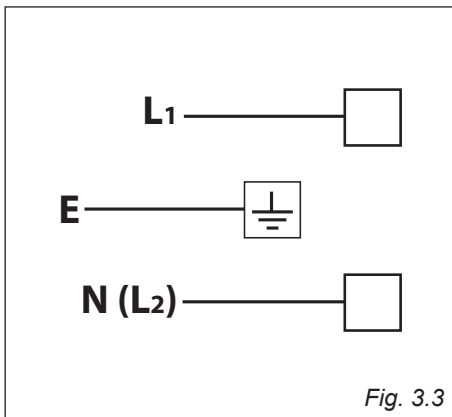

Fig. 3.3
- The new supply cable, of suitable type and section, must be connected to the terminal board following the diagram in fig. 3.3.